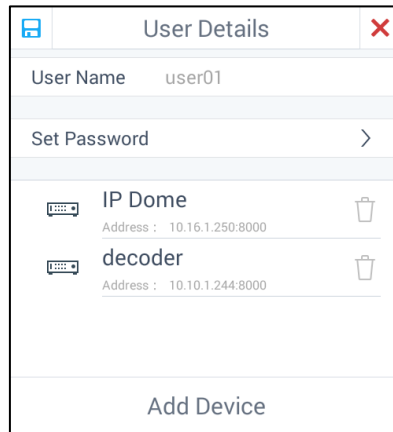

Figure 4.65 Viewing the User Detailed Information
2. Click **Details** to edit the detailed information of the user account including password and related devices. The details of the user account are shown in Figure 4.65.